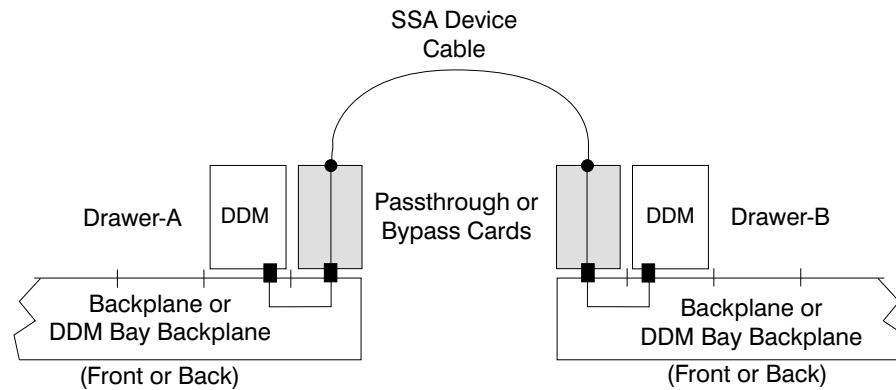

Figure 75. SSA Link Failure, Passthrough/Bypass Cards and Two DDMs (S007650I)
The SSA link between two DDMs is failing. The failing link is between two DDMs, in different drawers or DDM bays, two signal and/or bypass cards and the SSA cable that links them. See Figure 75 for the relationship of the DDM, signal and/or bypass card, and backplane FRUs involved with this failure.
6. Determine if Drawer-A, in Figure 75 on page 159, is a Model 040.
7. Determine if Drawer-A, in Figure 75 on page 159, is a DDM bay.
20. Determine if Drawer-B, in Figure 75 on page 159, is a Model 040.
21. Determine if Drawer-B, in Figure 75 on page 159, is a DDM bay.